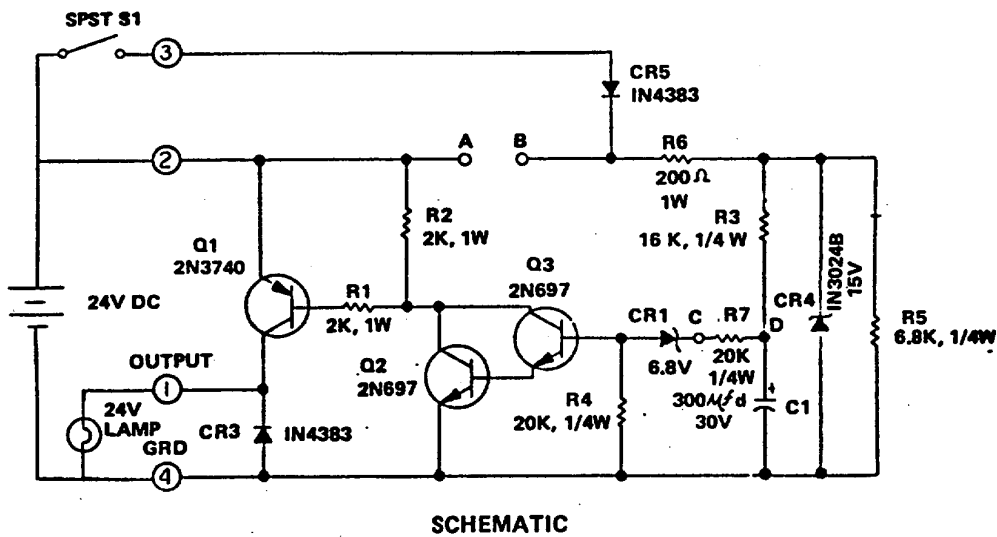

Figure 4-14. Time Delay Module TD3
- (1) Check transistor Q1 (10, figure 4-13 and 16, figure 4-14) by connecting a transistor tester for current gain of 100 minimum, leakage, or short.
- (2) Check transistors Q2 and Q3 (5 and 4, figure 4-14) by connecting each to a transistor tester and testing for current gain of 40 minimum, leakage, or short.
- (4) Check capacitor C1 (10, figure 4-14) by connecting to a capacitor tester and checking for leakage and capacitance. C1 must read 300 microfarads, 30 volts, ± 5 percent.
- (5) Check resistors using an ohmmeter for the following resistance's:
- (1) Connect time delay module TD3 as shown in figure 4-14.
- (2) Close switch S1 and time the period it takes before lamp DS1 lights. The lamp must light in 4.5 to 6 seconds, or TD3 is defective and must be replaced.